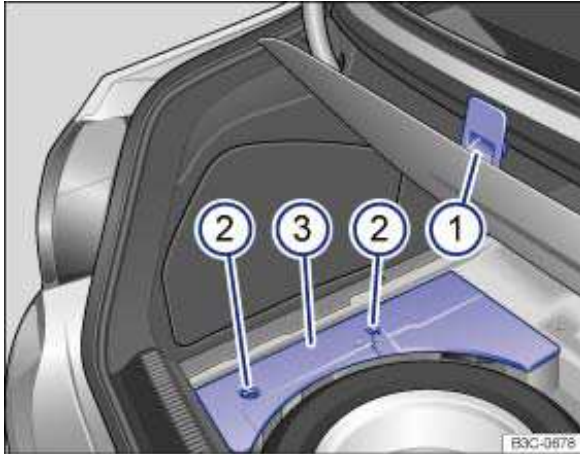

Fig. 169 In the luggage compartment underneath the floor panel 1: Spare tire and cover 3 for vehicle tool kit.
In a foam insert under the floor cover:	<ul style="list-style-type: none"> – Secure the floor cover on the top edge of the luggage compartment ⇒ fig. 169 (1). – Rotate the quick-release fasteners (2) 90° to remove the cover (3) of the vehicle tool kit.